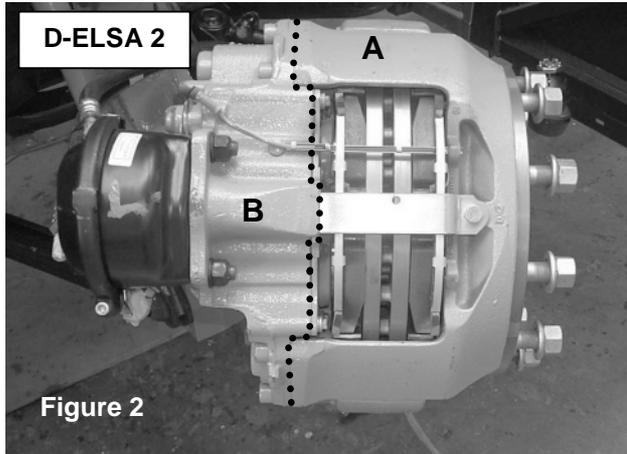

Figure 2: Complete D-ELSA 2 disc brake caliper with actuator (front axle.) The saddle comprises a bridge (A) and bolt-on actuator housing (B)
- Two-piece saddle (refer to Figures 2 and 3 on page 3)